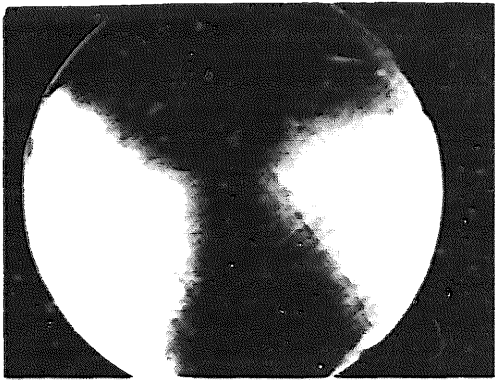

Figure 1-10. Fade positive which occurs after Presentation Sector is left in VIEW for 2 to 4 minutes
- h. **FADE POSITIVE** - Appears as random green areas on a dark background in **MAX. PERSISTENCE**, see Figure 1-10.